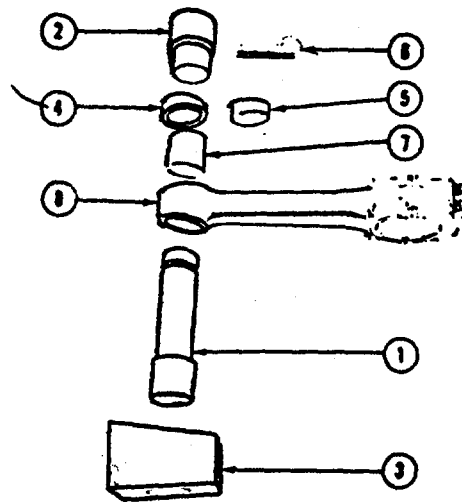

FIGURE 4-34. *Installing Piston Pin Bushing.*
- The alignment of the bolt bores in the rod (1) and cap must not change. Hold the rod (1) and cap in a clamp that holds the rod in alignment when cutting material from the surfaces.
- (5) Install the cap on the rod (1) and tighten the machine bolts (10) to the torque listed in Table 4-10.
- (6) Cut the crankshaft bore with the boring machine, P/N 3375115, that has a precision fixture to keep the piston pin bore and crankshaft bore in alignment. The surface of the bore must be smooth within 75 micro-inches.
- (7) Put the connecting rod (1) in the fixture, ST-561, and check the alignment.
- (8) Cut the inside diameter of the bore for rods with bolts and nuts to measure 3.2722 to 3.2732 inches (83.114 to 83.139 mm), or cut the inside diameter of the bore for rods with capscrews to measure 3.3157 to 3.3167 inches (84.219 to 83.139 mm).
- c. Install the piston pin bushing (7, Figure 4-34).
- (1) Put the bushing (7), on the mandrel (1).
- (2) Put the sleeve (4) and then the cup (2) on the mandrel (ST-1242).
- (3) Fasten the cup (2) on the mandrel (1) with the locking pin (6).
- (4) Put the connecting rod (8) on the block (3) and hold it in a horizontal position.
- (5) Insert the mandrel (1) into the bore of the connecting rod (8).
- (6) Align the sleeve (4) with the middle of the boss on the connecting rod (8).